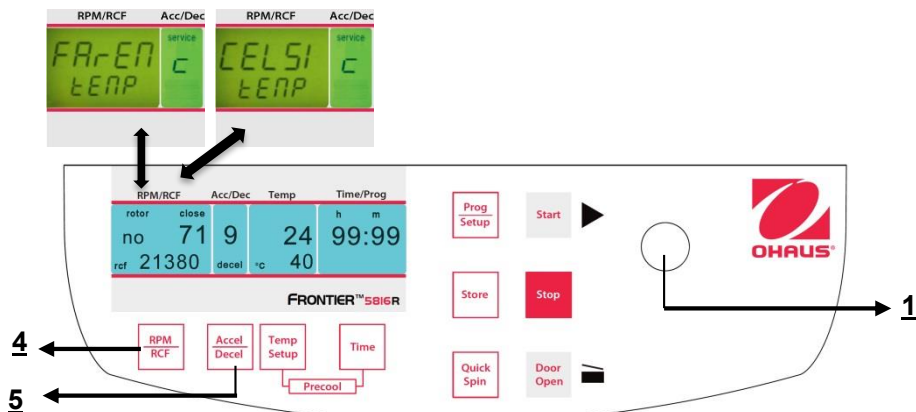

Figure. 31
the word **"CELSI"** flashes and you can change the display into Fahrenheit **"FAREN"**, with the adjusting knob (1) (See figure 31). After you have stored the settings (See 4.1.1) you change back to the normal program mode again by switching off the centrifuge for a short while.